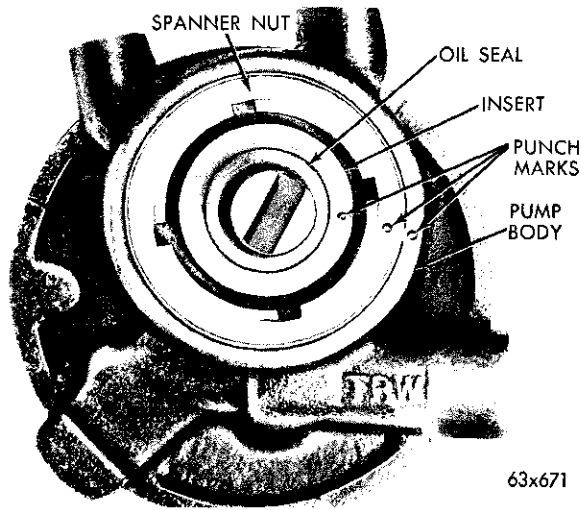

Fig. 11—Center Punch Marks on Pump Body Spanner Nut and Front Insert
(4) Use a center punch to mark the position of the spanner nut and front insert in the pump housing (Fig. 11) to insure that the front insert and spanner nut are returned to the exact same position at reassembly.